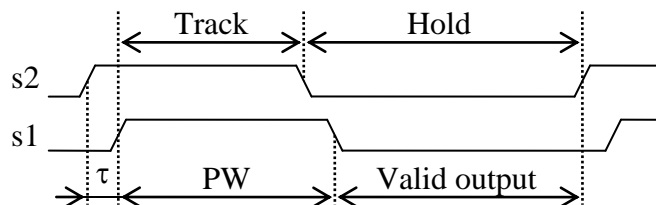

Fig. 4. Sampling Diagram
The input clock buffer converts the external clock cp/cn into two internal signals s1 and s2 with controlled pulse width (PW) and delay (τ) between them as shown in Fig. 4.